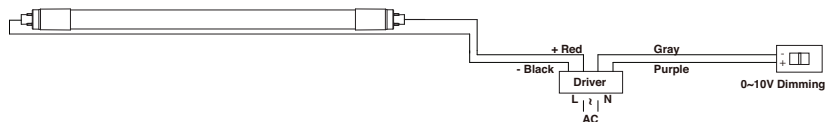

Figure 3a
**Step 7:** For double-ended wiring, please see **Figure 3a, 3b, 3c or 3d**.